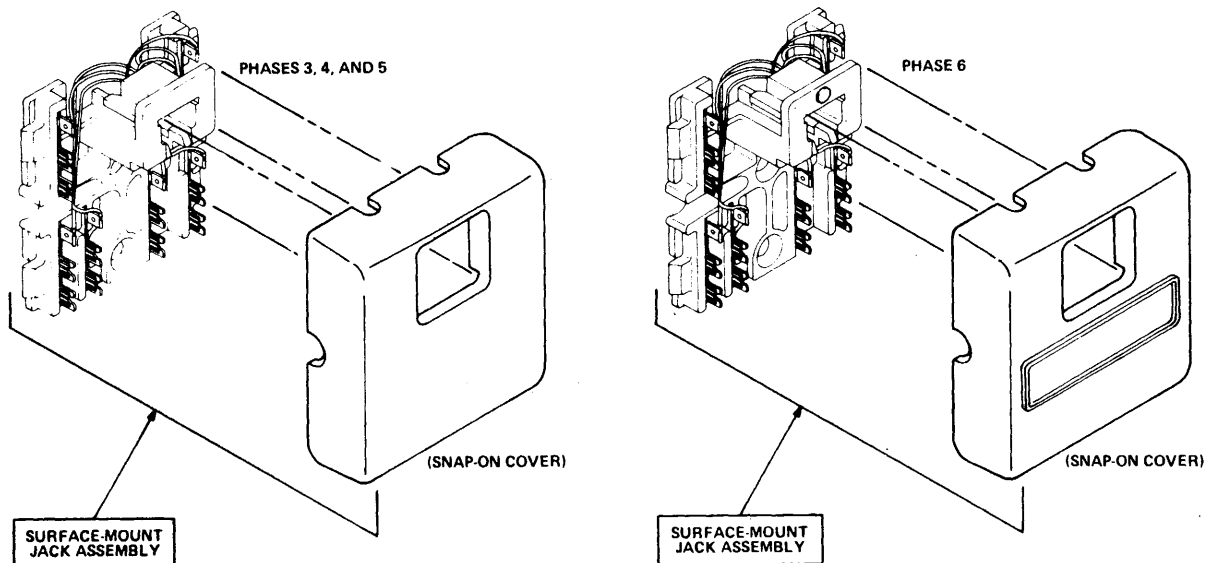

Figure 2. Surface-Mount Jack Assembly.
3.04 The two types of miniature jack configurations are surface mount (Figures 2 and 3) and flush mount (Figures 4 and 5 and Table 2).